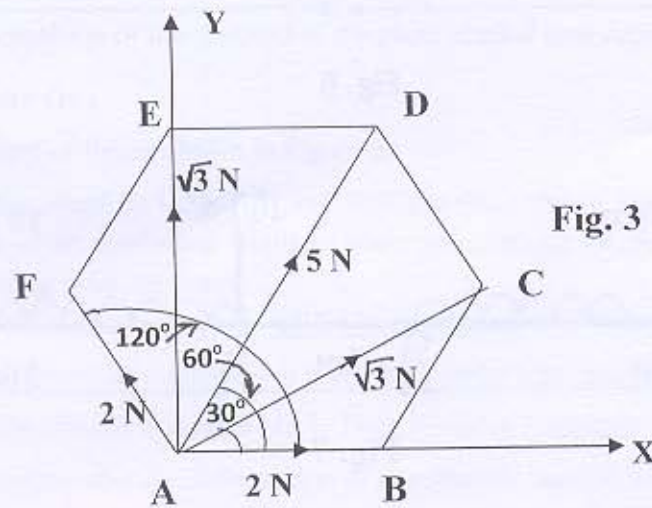

Fig. 3
- (i) Find resultant of forces shown in Figure 3.